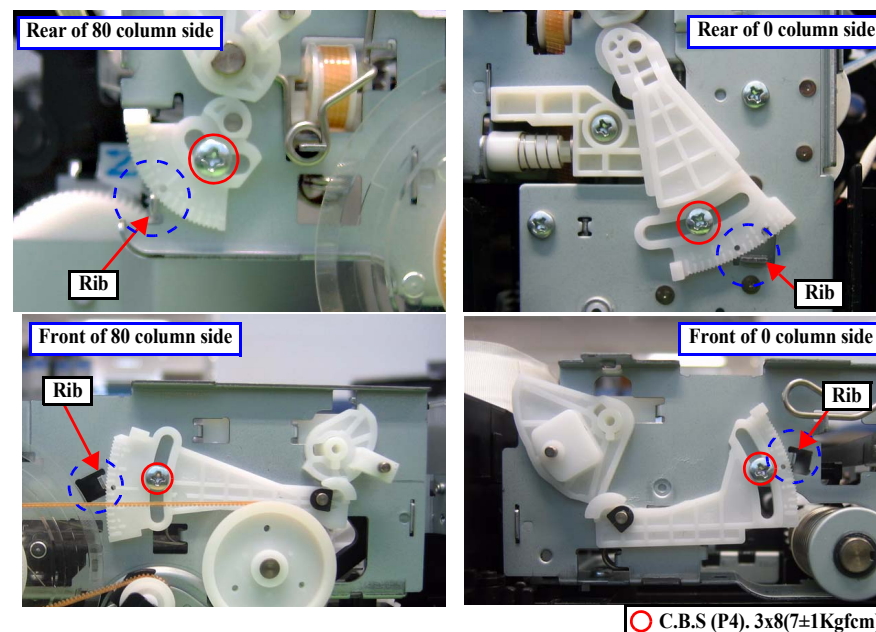

Figure 5-34. Positions of parallelism adjustment bushings
2. Loosen all the screws the secure each parallelism adjustment bushing. (Fig. 5-34)
6. Tighten the screw of each parallelism adjustment bushing to secure them. (Fig. 5-34)